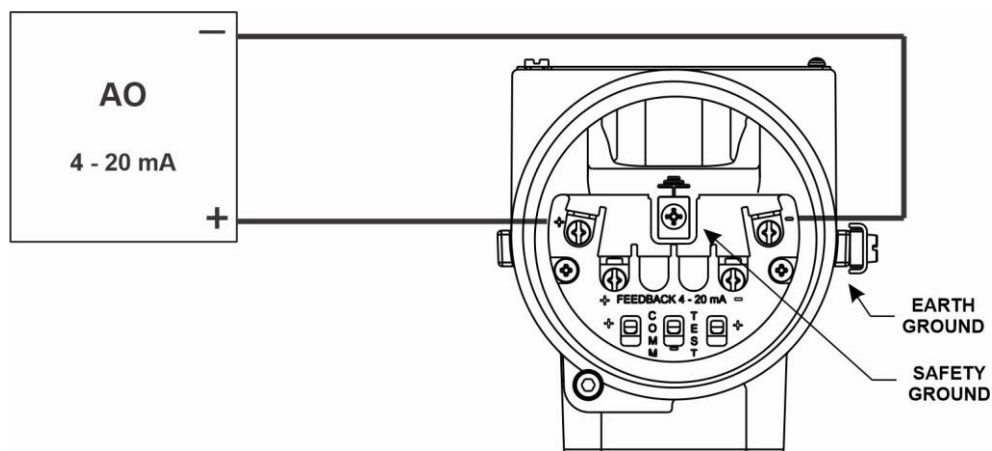

Figure 1.22 – Loop connections
2. Connect the positive wire to the (+) screw terminal and the negative wire to the (–) screw terminal, As shown in figure 1.22.